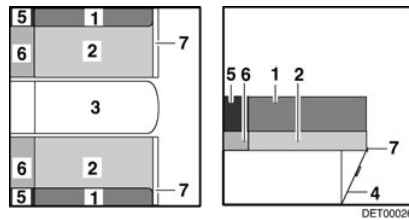

Fig. 32 After extending
- Fold up bench seat extension (Fig. 32,7) and wedge together with the flap (Fig. 32,4).
- Place the back cushions (Fig. 32,1) and the seat cushions (Fig. 32,2) on the bench seat extension.
- Insert the additional cushions (Fig. 32,6) between the seat cushions and the exterior wall.
- Insert the additional cushions (Fig. 32,5) between the back cushions and the exterior wall.